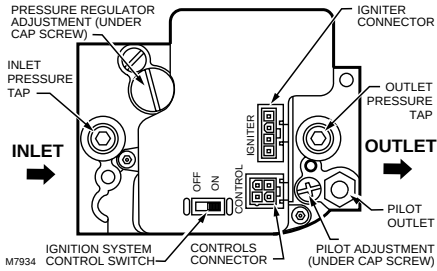

Fig. 6. Top view of ignition system control.
Follow the instructions below to installing the piping, and control. Connect the pilot tubing and wiring. Make sure the leak test you perform on the control after completing the installation includes the adapters and screws. If you use a wrench on the valve after the flanges are installed, use the wrench only on the flange, not on the control. See Fig. 6.
- 3. Unscrew the brass compression fitting from the pilot outlet as shown in Fig. 6.